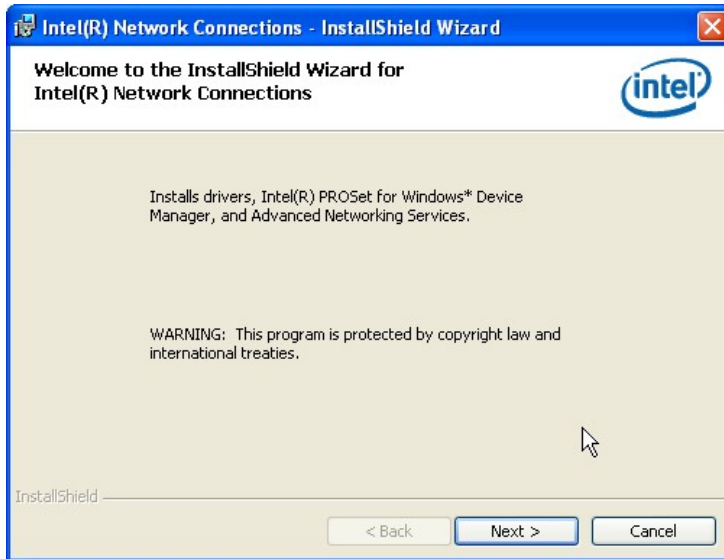

Figure 6-15: LAN Driver Welcome Screen
Step 6: The **Welcome** screen in **Figure 6-15** appears.